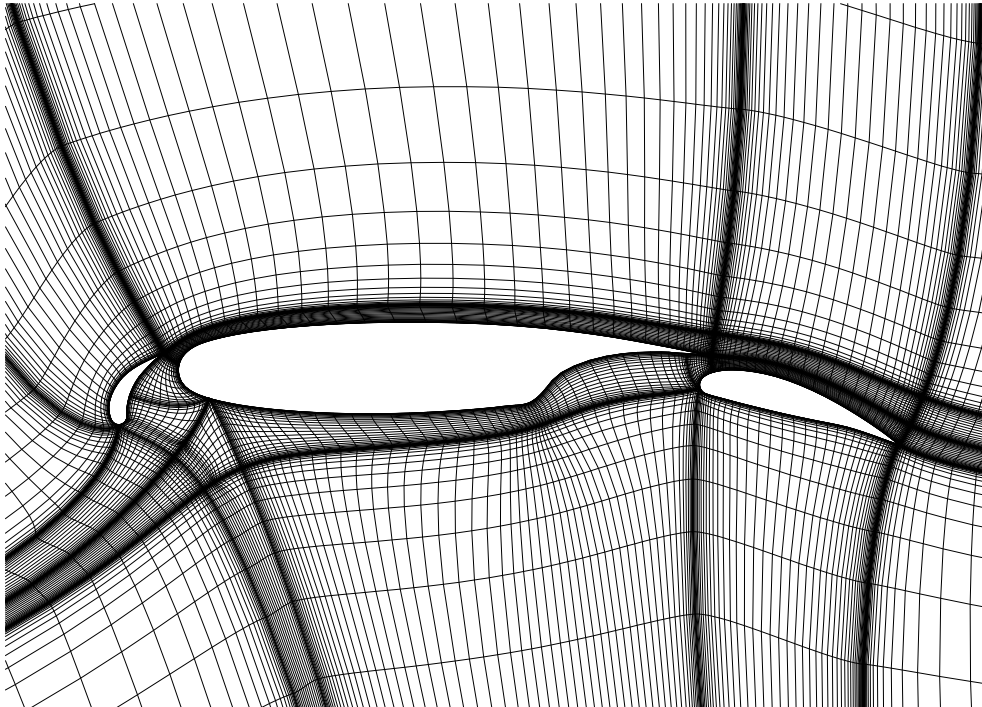

Figure 6.6: Smoothed grid for Test Case 2
6. Elliptically smoothed H-grid plot (figure 6.6)